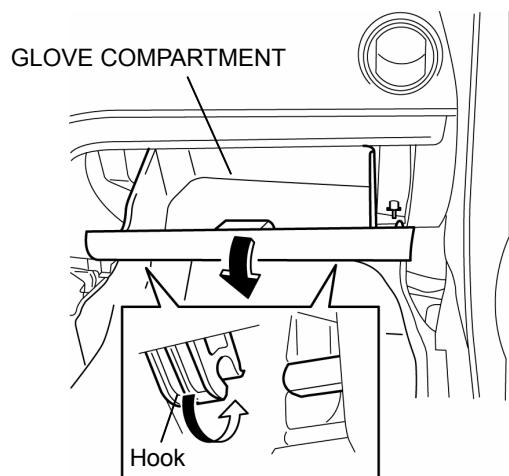

FIGURE 10
- C. Lower the glove compartment. (refer to Figure 10)
- D. Detach the hook from the dashboard. (refer to Figure 10)